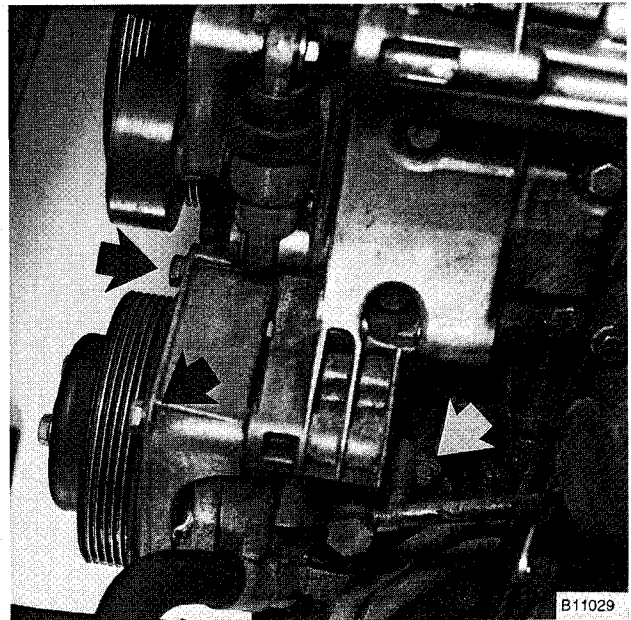

Fig. 14. Power steering pump mounting bolts (**arrows**). M52 engine shown.
20. Remove power steering pump from its mounting bracket. See Fig. 14. Use stiff wire to hang pump from body.